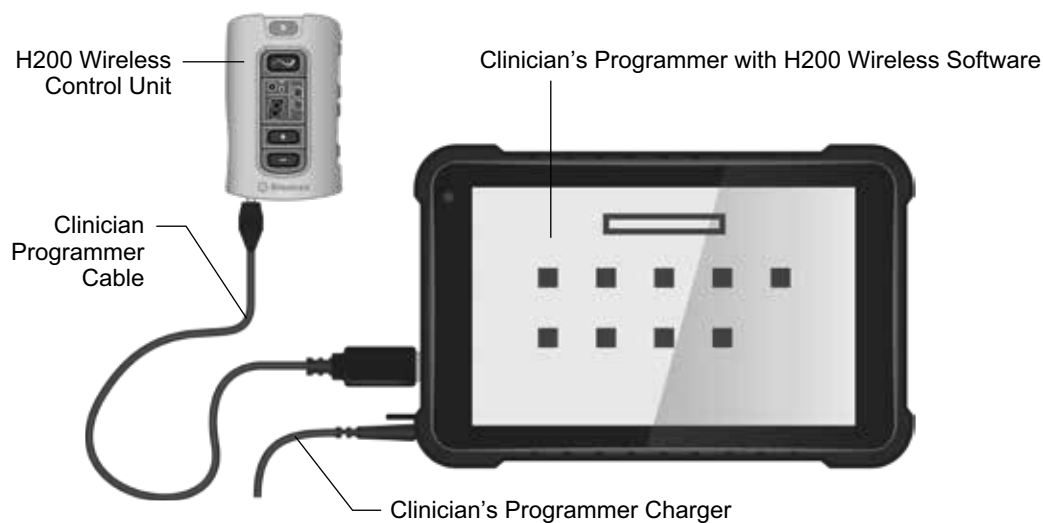

Figure 5-1: Programmer Components with H200 Wireless Control Unit Connected
The Clinician's Programmer is a rugged tablet personal computer (PC) used to program the H200 Wireless System. When connected to the Clinician Programmer Cable and H200 Wireless Control Unit, the Clinician's Programmer can wirelessly communicate with the H200 Wireless Orthosis. See Figure 5-1.